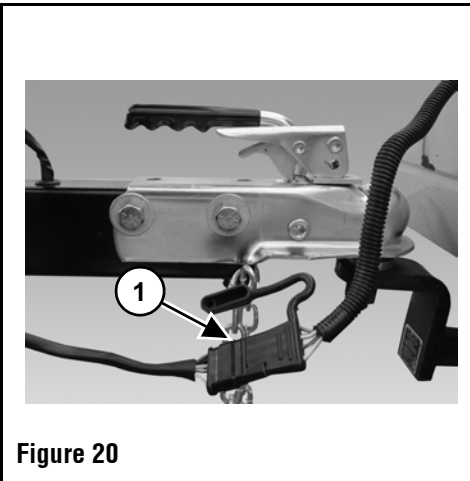

Figure 20
7. Connect the trailer wire harness to the vehicle wire harness (Item 1). (Figure 20)